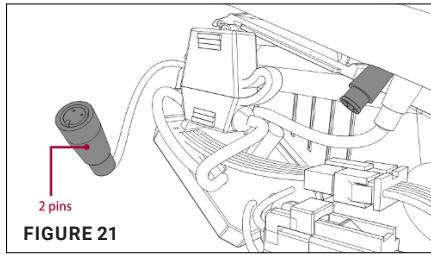

FIGURE 21
3. Remove the controller and disconnect the brake wire. [Figure 21]